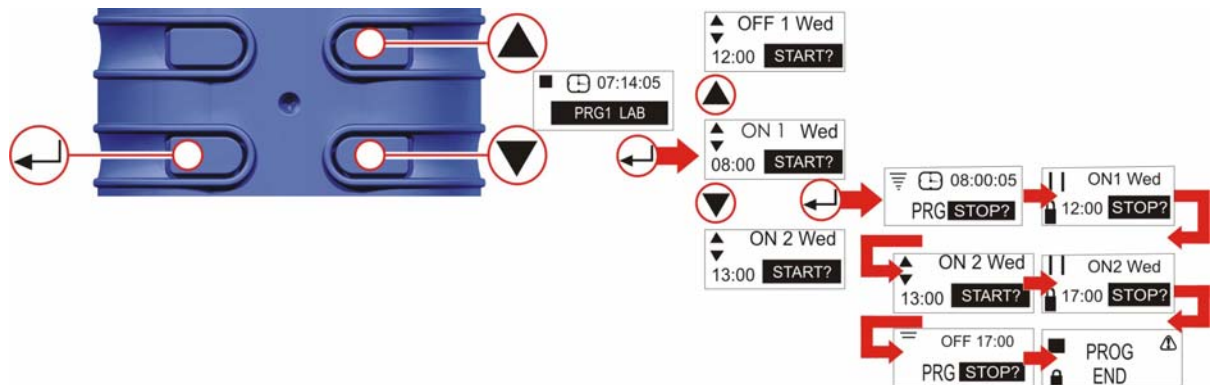

Figure 10 Program Mode
G. PROGRAM MODE (PRO ONLY) (Fig. 10)